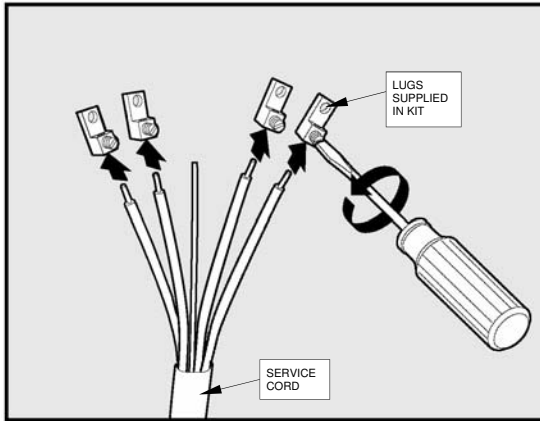
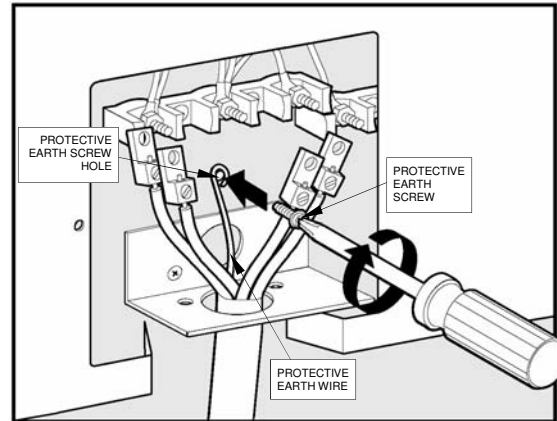
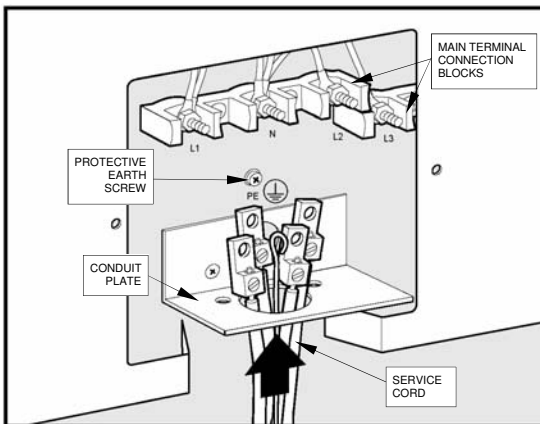
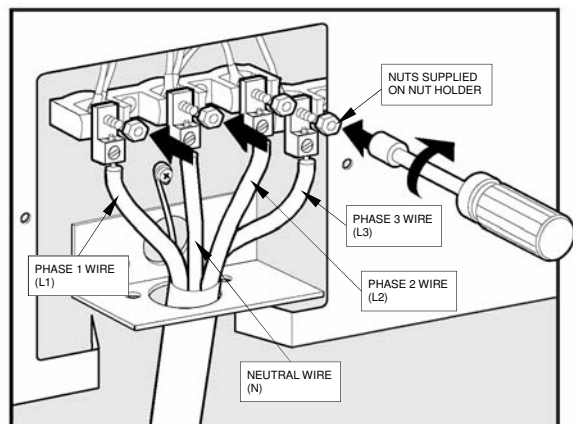

FIGURE 12
FIGURE 14
FIGURE 13
FIGURE 15
**BARE WIRE CONNECTION:** For a bare wire connection, attach the lugs (See figure 12). Use the proper torque (See the Bare Wire Torque Chart). Pull the service cord through (See figure 13). **The earth wire must attach to the earth screw** (See figure 14). Connect the remaining wires (See figure 15).